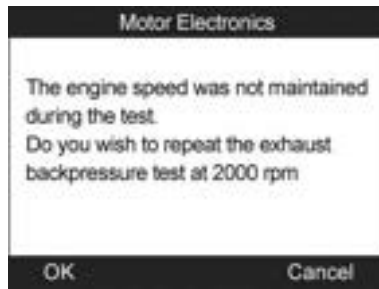

Figure 11.43
- If the engine is not running at 2000 rpm, the tool will display a warning message (Figure 11.43). Select **OK** to repeat the test or select **Cancel** to exit.